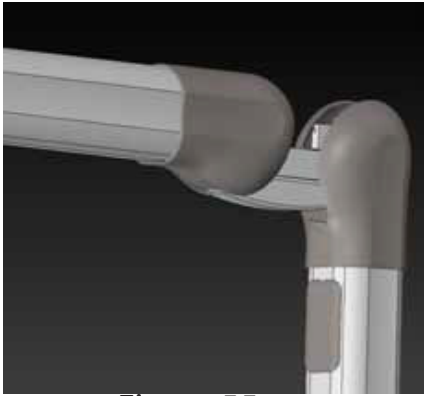

Figure 55
- Keep the Vertical Arm of the scissor arm in Vertical position and Horizontal Arm in horizontal position as shown in Figure 55.